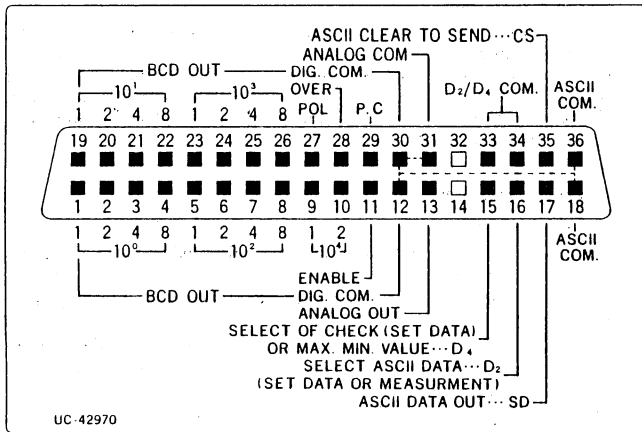

Fig. 11 Input/Output Connector (Amphenol: 57-40360)
8. OPTIONAL DATA OUTPUT (Refer to Fig. 11.)